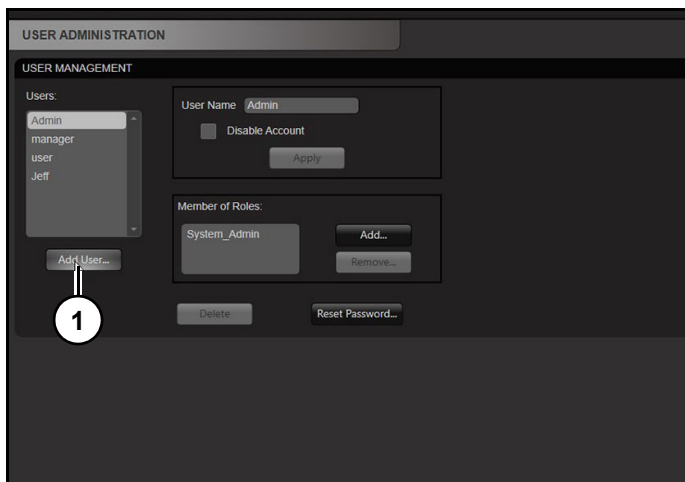

Figure 57
1. Click "Add User" (1) (Figure 57).